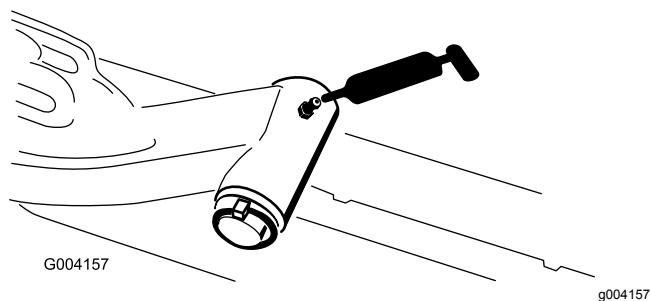

Figure 49
- Lift-arm pivot shaft (1 each)—Figure 49